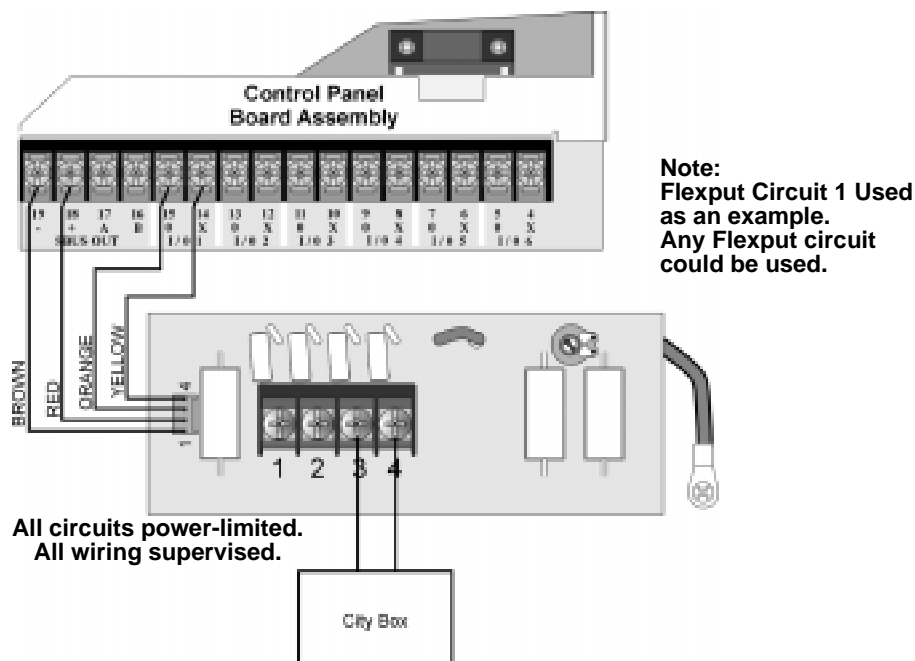

Figure 4-42 City Box Connection
2. Wire the 5220 to the control panel as shown in Figure 4-42. This drawing also shows how to connect the city box coil to terminals 3 and 4 on the 5220. Do not install an EOL resistor in the terminals of the Flexput circuit used for this application.